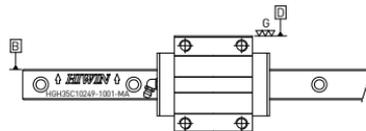

Figure 2
3. Recognition of datum plane : The datum plane (B) of rail is the side indicated by the arrow, which is marked on the top surface of the rail. The datum plane of block is smooth ground surface which shows as D in Figure 2.